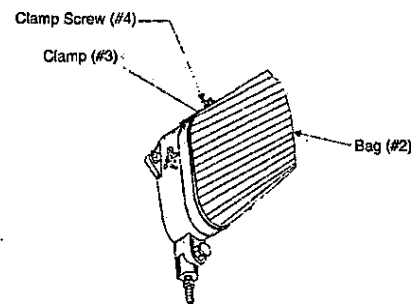

Figure 3 - Attaching the Bag
5. Loosen the CLAMP SCREW (#4) and place the CLAMP (#3) over the bag with the CLAMP SCREW towards the top of unit as shown in Figure 3, then tighten the CLAMP SCREW to secure the BAG.